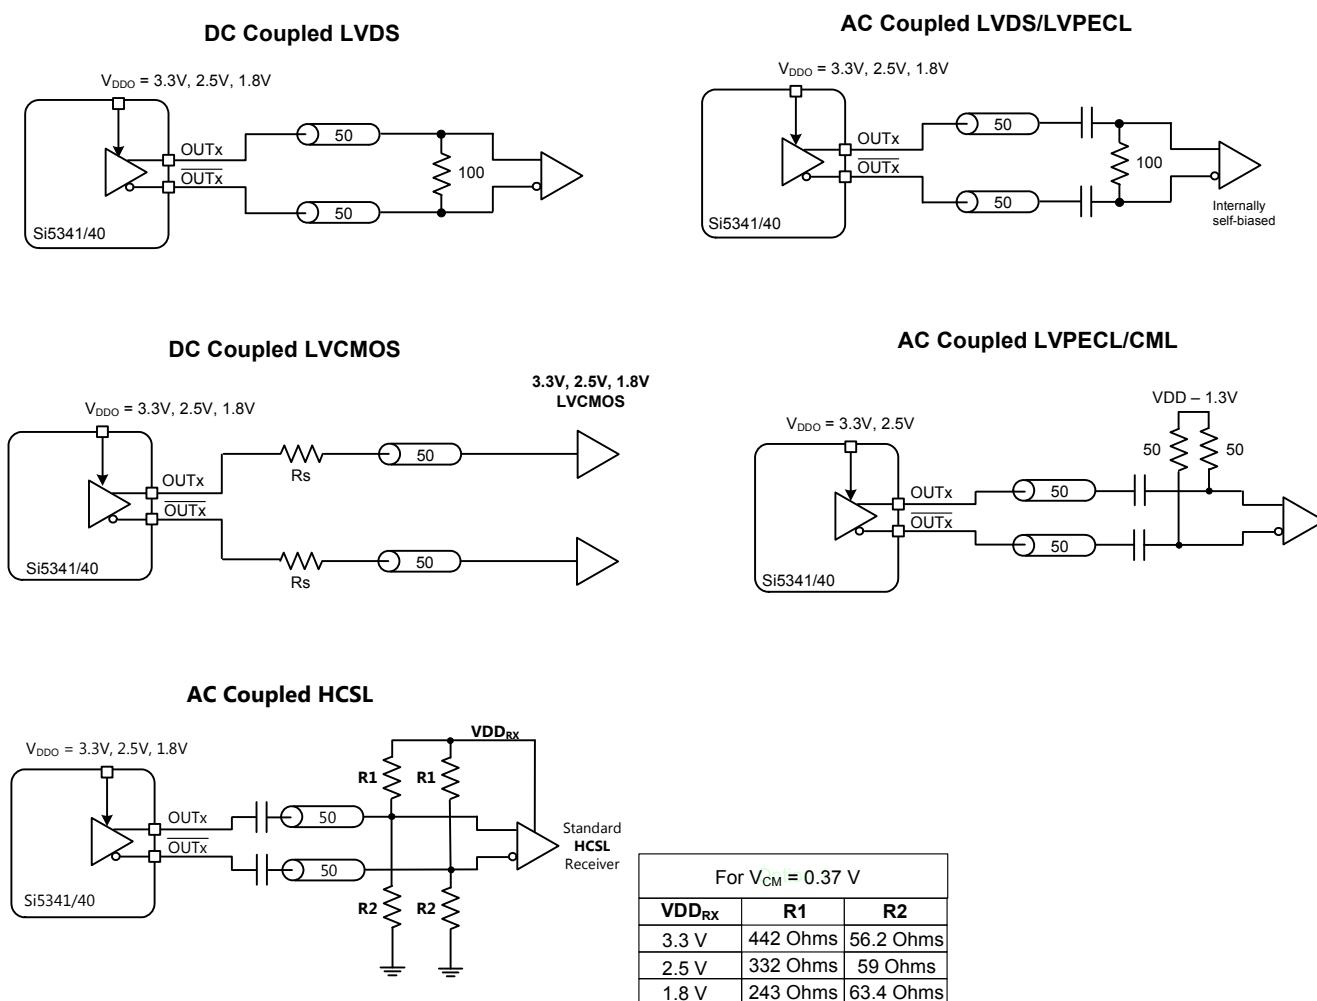

Figure 14. Supported Differential Output Terminations
The differential output drivers support both ac-coupled and dc-coupled terminations as shown in Figure 14.
- **Differential Normal Mode:** When an output driver is configured in normal mode, its output amplitude is selectable as one of 7 settings ranging from ~ 130 mV_{pp_se} to ~ 920 mV_{pp_se} in increments of ~ 100 mV. See Appendix A for additional information. The output impedance in the normal mode is $100\ \Omega$ differential. Any of the terminations shown in Figure 14 are supported in this mode.
- **Differential Low Power Mode:** When an output driver is configured in low power mode, its output amplitude is configurable as one of 7 settings ranging from ~ 200 mV_{pp_se} to ~ 1600 mV_{pp_se} in increments of ~ 200 mV. When in Differential Low Power Mode, the output impedance of the driver is much greater than $100\ \Omega$, however the signal integrity will still be optimum as long as the differential clock traces are properly terminated in their characteristic impedance. Any of the terminations shown in Figure 14 are supported in this mode.